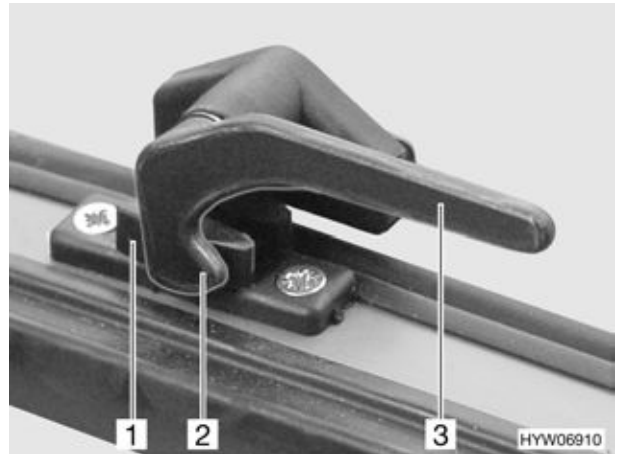

Fig. 36 Hinged window, window handle closed (variant 1)
- Set window handle (Fig. 36,3) into a vertical position or turn a quarter turn towards the centre of the window.
- Set window handle (Fig. 36,3) into a horizontal position or turn a quarter turn towards the window frame. The locking catch (Fig. 36,2) is located on the inside of the window catch (Fig. 36,1).